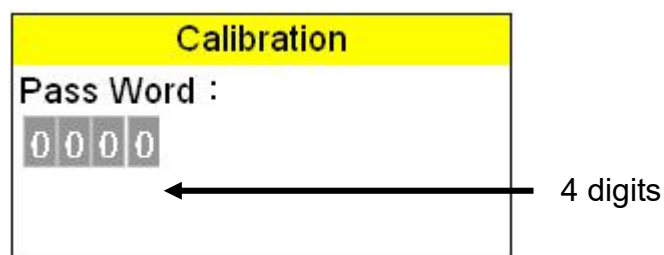

Figure 145
- B. Press  button to the editing mode as shown in Figure 145.